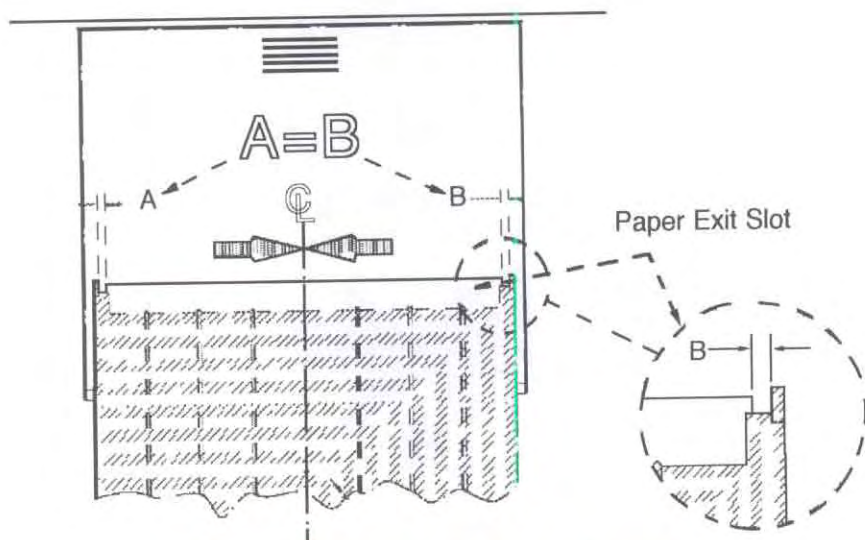

Figure 1-19. The Correct Lateral Alignment
3. Ensure that the printer's rear exit opening is centered evenly between the two tips of the Transport Module's inner guide, as shown in Figure 1-19. You can view the alignment by opening the Transport Module's cover.